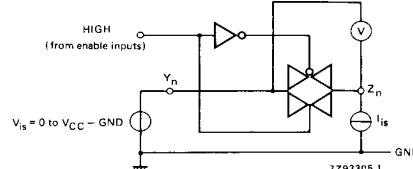

Fig. 6 Test circuit for measuring  $R_{ON}$ .
- For test circuit measuring  $R_{ON}$  see Fig. 6.